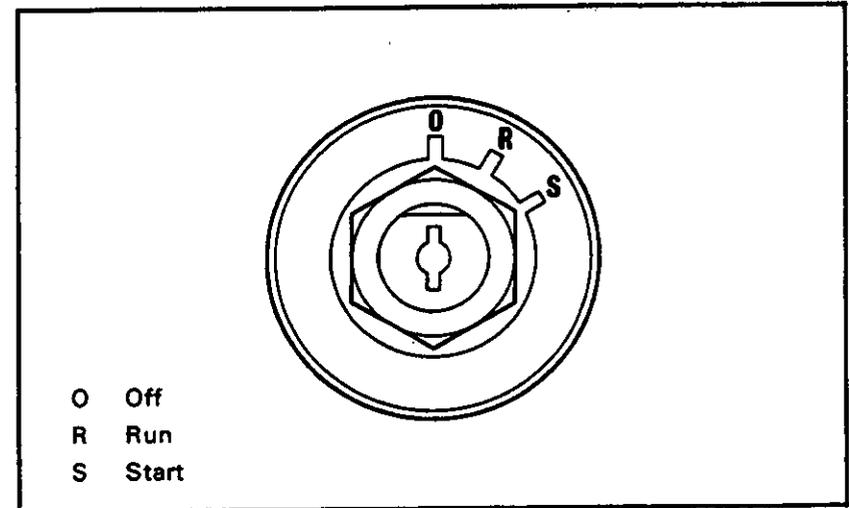

Fig. 7 Start switch
- 2 Turn the ignition switch start key to the 'S' position (see fig. 7) to engage the starter motor.
- 3 Turn the ignition switch key to the 'S' position (see fig. 7) to engage the starter motor.
- 2 Turn the ignition switch key to the 'S' position, (see fig. 7) to engage the starter motor.
Return the engine speed control to its fully closed position and turn the ignition switch key to the 'O' position (see fig. 7).